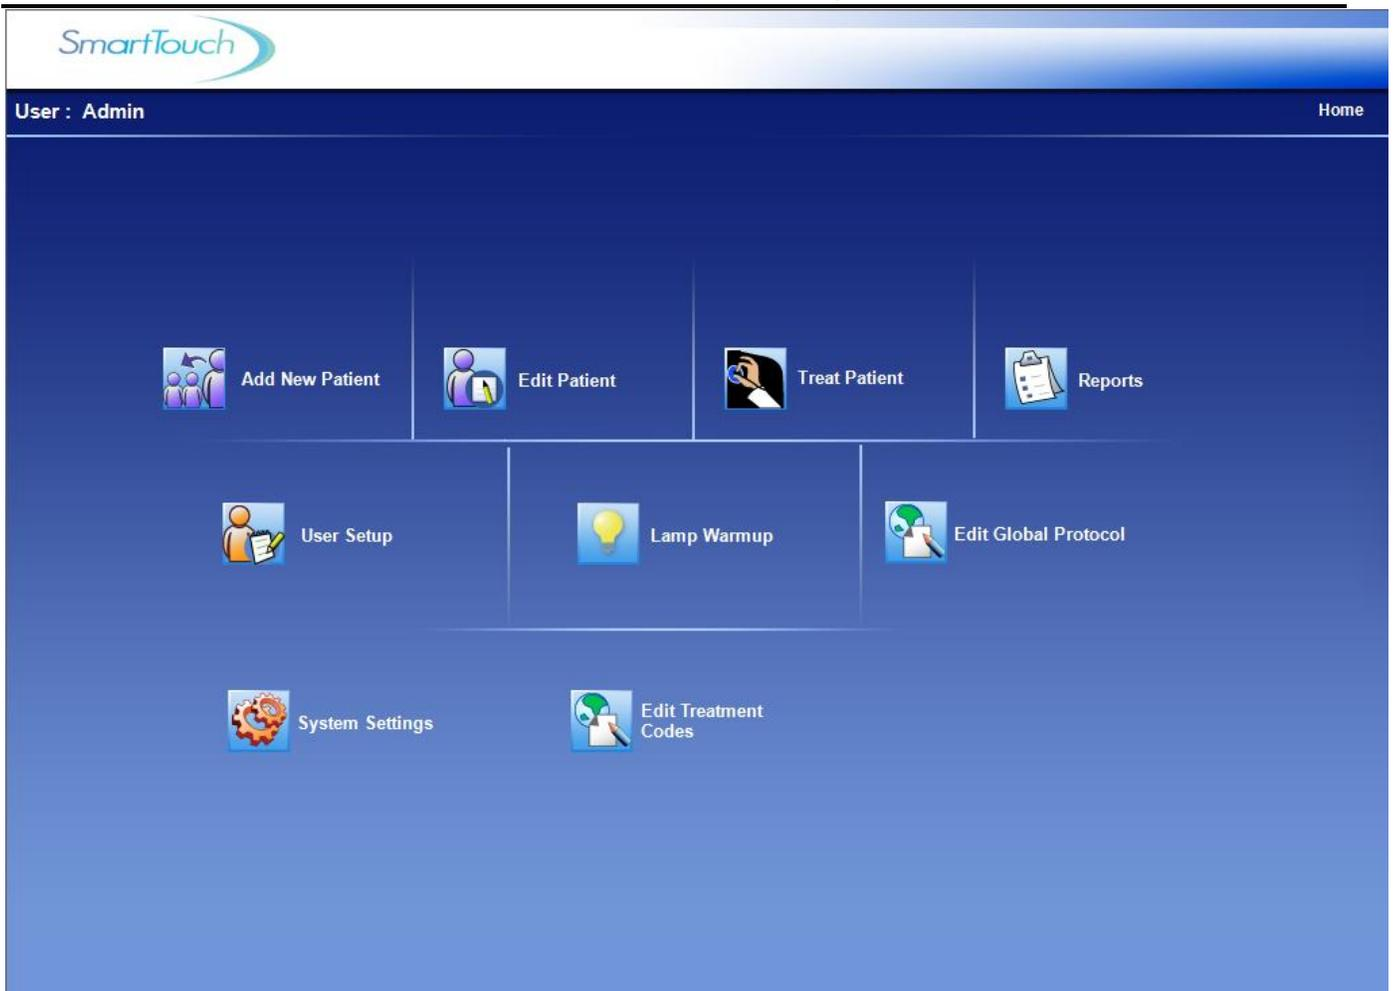

Figure 10 - Main Menu Screen for STUV
4. Retype the new password, and then tap **Save** once. The Main Menu screen will be displayed (See **Figure 10 - Main Menu Screen**), and the system administrator setup is complete
6. When the loading is completed, and the unit is properly linked with SmartTouch™, the Main Menu screen will be displayed (See **Figure 10 - Main Menu Screen for STUV**).
1. Login to the SmartTouch™ control system and tap the **User Setup** button once from the Main Menu (See **Figure 10 – Main Menu Screen**). The **Select a Username** screen will be displayed.
2. Type the chosen user password in the **Password** field using the keyboard at the bottom of the display, and then tap the **Logon** button once. The Main Menu screen will appear (See **Figure 10 – Main Menu Screen**), indicating that the user login is complete.